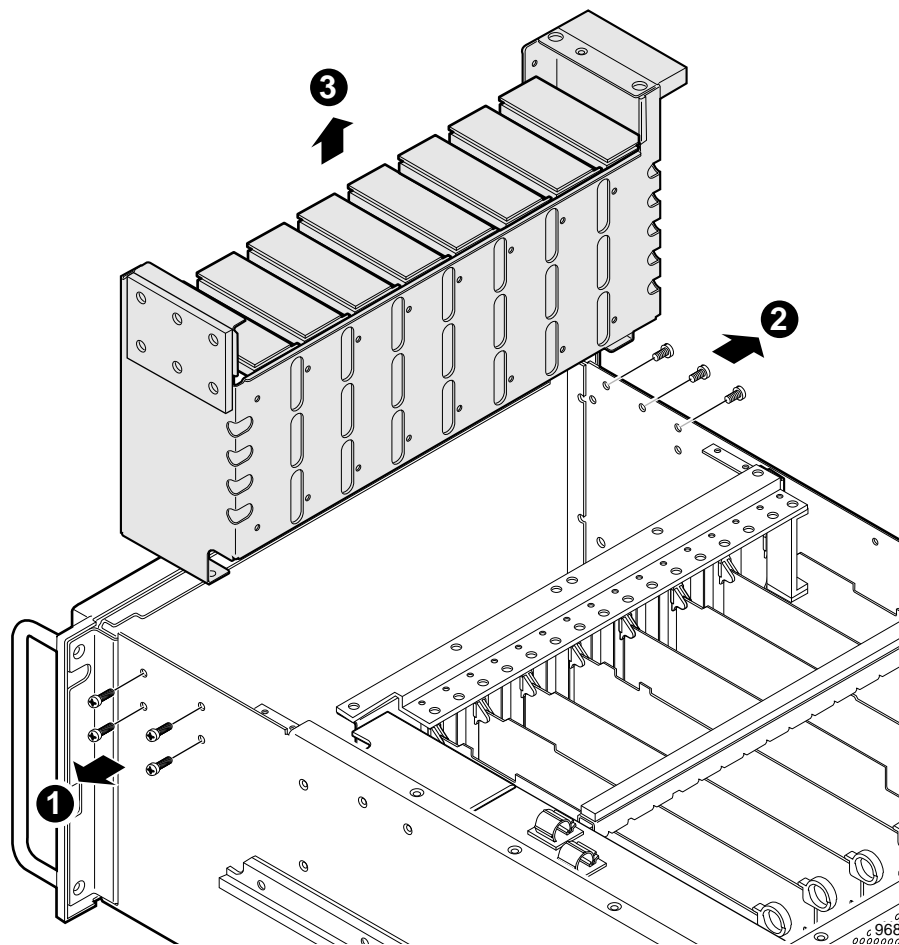

Figure 12. Removing the Drive Tray
2. Use the Torx tool with the T15 tip to remove the four screws on the right and three screws on the left of the chassis (❶ and ❷ in Figure 12) that mount the drive tray to the chassis.
3. Carefully tip the top of the disk tray toward the rear panel and lift up and out of the chassis (3 in Figure 12).